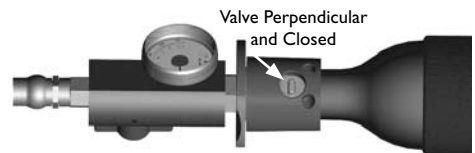

Figure 8g - Nozzle Valve Closed
9. Ensure that the Nozzle Valve is perpendicular to the flow of air. (Fig. 8g) Always replace the Filler Hose Wrench back in the lanyard on the Filler Hose.